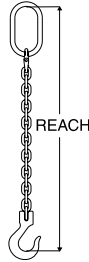

Fig. 1
3. Determine the overall reach from bearing point of master link to bearing point on hook (see Fig. 1).